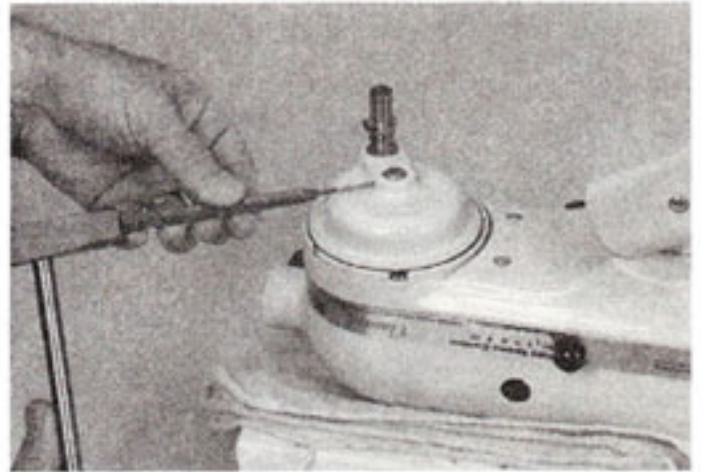

Fig. 70
- U. Place the washers on the vertical shaft. Place the planetary on the shaft and push it up to the washers. There should be a perceptible amount of end play. Line up the holes in the planetary and shaft. It may be necessary to use a scribe to hold shaft up to align holes (Fig. 69). Drive in the groove pin (Fig. 70). Place the drip cup on the gear case.